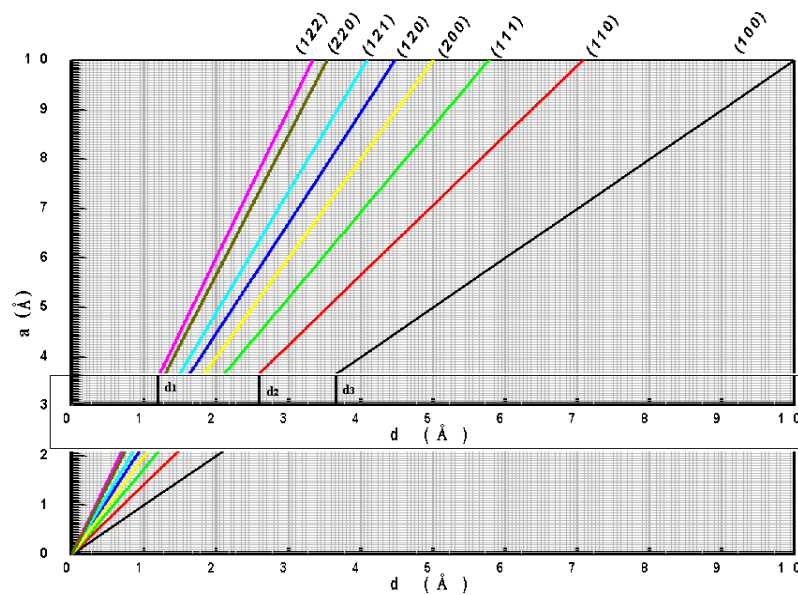

Fig.2. Determination of (**hkl**) values from the known **d** values from the Hull-Debye chart
3. Move the graph strip along the Y-axis direction until as maximum number of your obtained **d**- values as possible exactly coincide with different graphs on the chart simultaneously at a particular value of **a** on Y-axis as shown in Fig. 2.